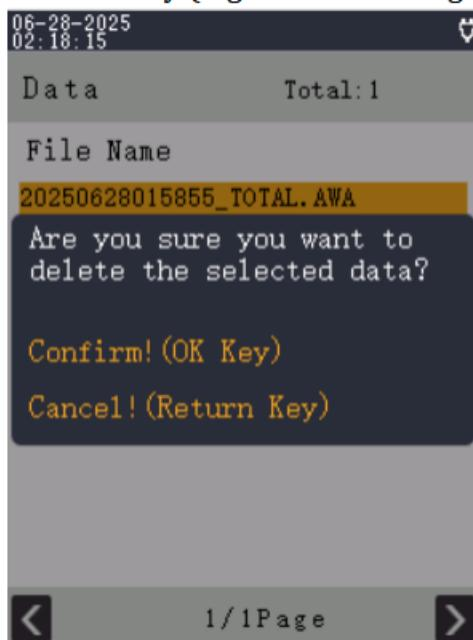

Figure 6.23
4) Delete One Record: In the details view, press Delete. Confirm twice to delete the selected entry (Figure 6.23 and Figure 6.24).